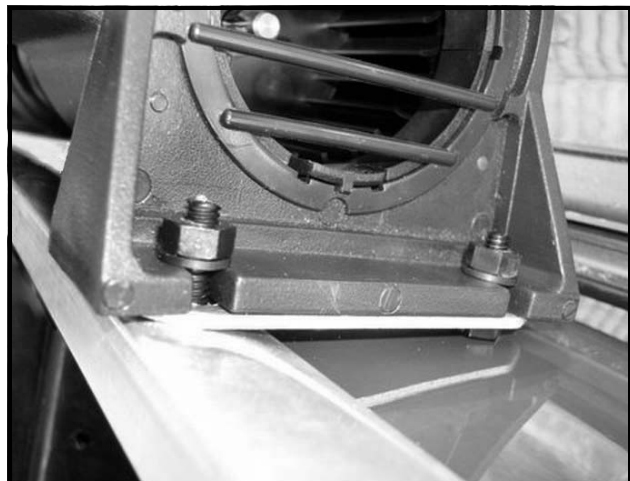

Figure 16 Secure Blower to Cowl
- 3.7. Secure blower to dash by inserting 1-1/4-inch nylon bolts up through dash, aluminum plates, and blower brackets (**Figure 16**).